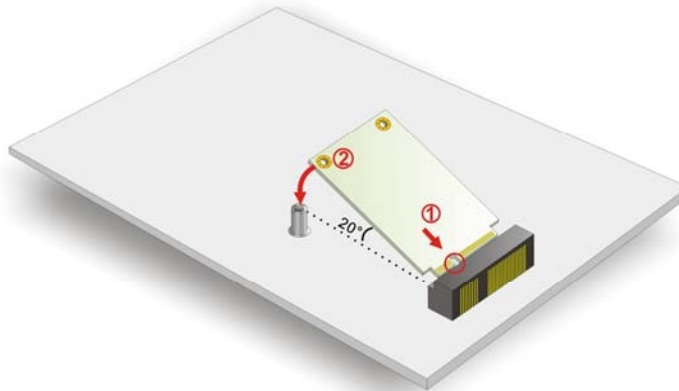

Figure 4-11: Insert the PCIe Mini Card into the Socket at an Angle
Step 3: **Insert into the socket at an angle.** Line up the notch on the card with the notch on the connector. Slide the PCIe Mini card into the socket at an angle of about 20° (Figure 4-11).